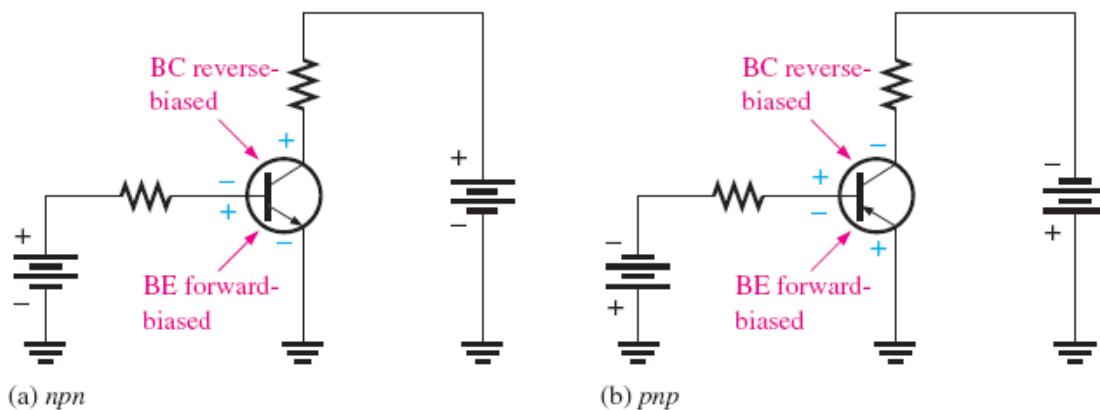

Figure 4-3: Forward-reverse bias of a BJT.
Figure 4-3 shows a bias arrangement for both ***npn*** and ***pnp*** BJTs for operation as an **amplifier**. Notice that in both cases the base-emitter (BE) junction is forward-biased and the base-collector (BC) junction is reverse-biased. This condition is called *forward-reverse bias*.